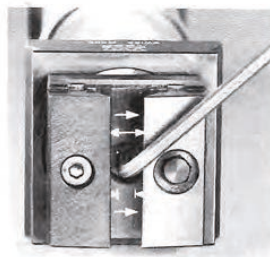

Fig. 7.
- Remove the measuring arm from the mobile stop (5), and set the instrument to measure either internal or external dimensions, by turning the screw as shown in Fig. 7.